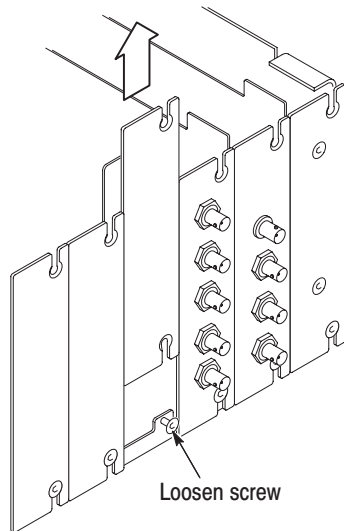

Figure C-3: Removing the rear panel
4. Remove the appropriate rear panel as shown in Figure C-3. Loosen, but do not remove the bottom screw. You will use it later to secure the module.
4. Remove the appropriate rear panel as shown in Figure C-3 on page C-6. Loosen, but do not remove the bottom screw. You will use it later to secure the rear panel.